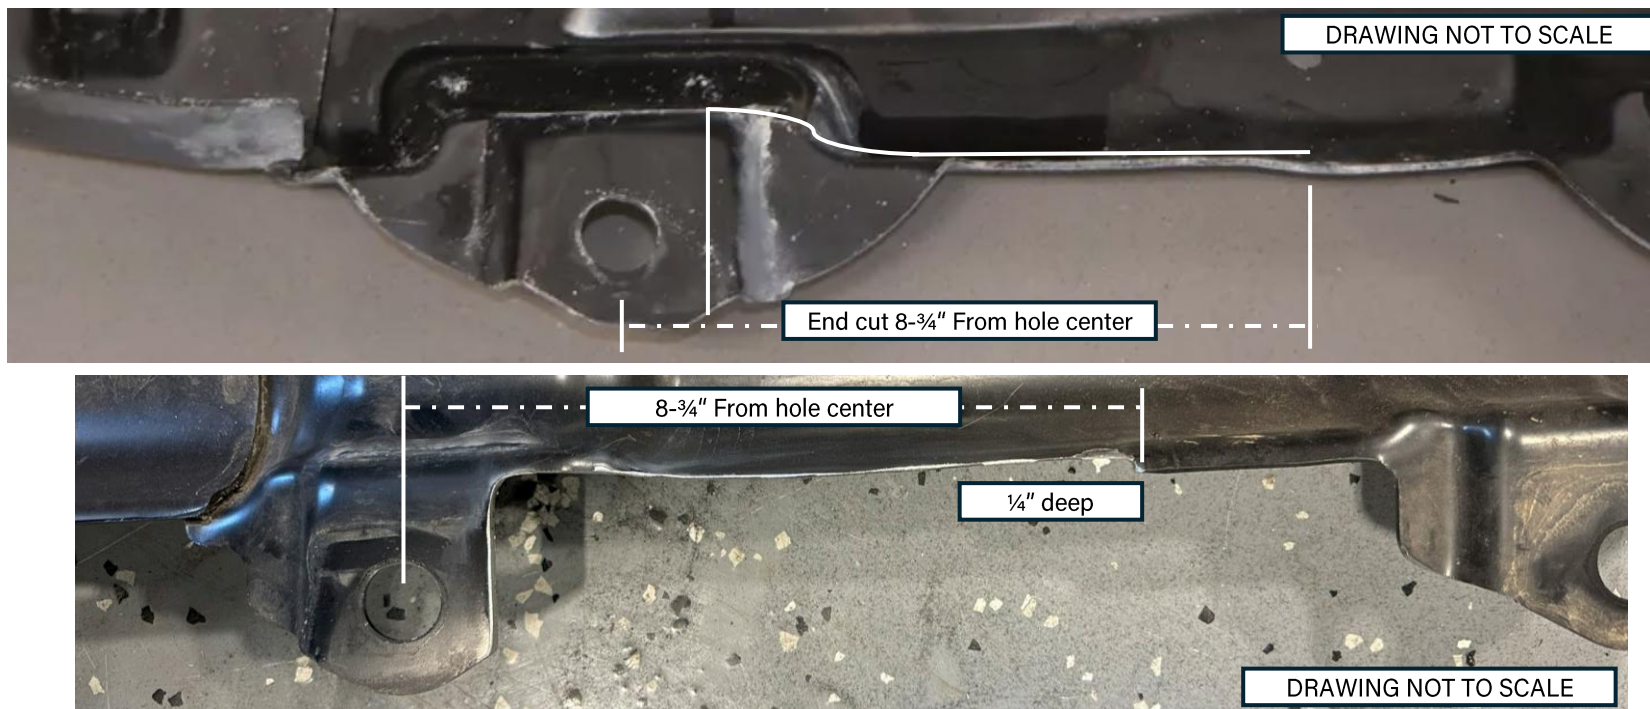

Figure 29: Rear-most gas tank skid plate mount before and after clearance cut
24. To accommodate the new frame brackets on the gas tank side, one of the gas tank mounts must be trimmed. Please see Figure 29 for a template on where to cut the rear-most frame rail mount on the tank. Use a cut-off wheel to make the cut. **REMOVE THE GAS TANK OUT OF THE SKID BEFORE CUTTING. Cut ¼" deep, and 8-¾" from the hole center.**